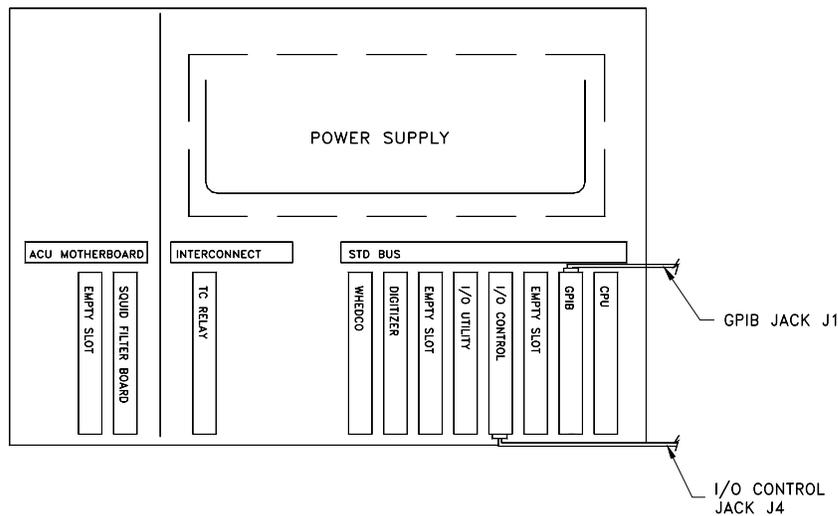
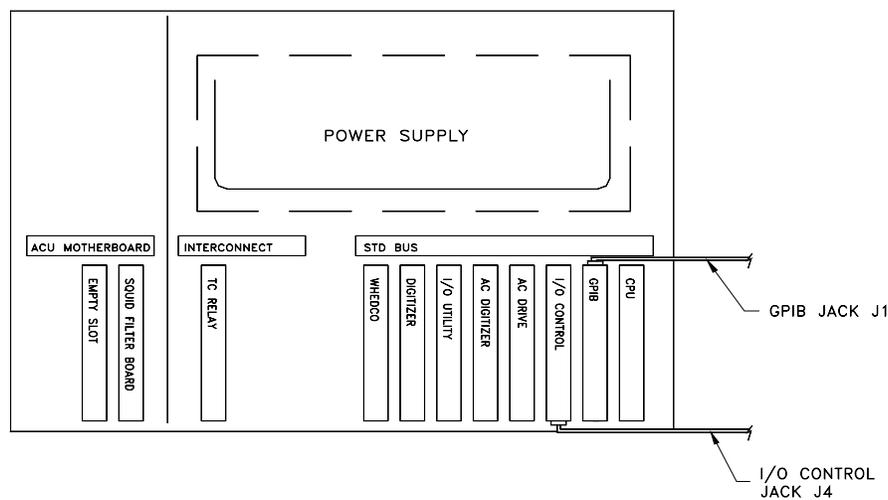

Figure 8. 1822 controller setup on a standard MPMS system, including proper connections for ribbon cables
Figure 9. 1822 controller setup on an AC system, including proper connections for ribbon cables
- Figure 3 shows a frontal view of the 1822 controller unit, including the different boards, cables, and connections. Referring to this figure, locate the ribbon cables marked GPIB and I/O Control Jack J4, which are in the far right of the controller unit next to the CPU board. Note that the layout of boards will vary according to the options that have been installed, but the CPU board is always at the far right. (For example, Figure 9 shows the layout for an AC system.)
1. Holding the CPU board so that its top (the side with the chips on it) faces to your left, slide the board into the far right slot of the 1822 controller (Figures 8 and 9). Push on the board until it is firmly seated in the socket in the STD Bus board. Figure 8 illustrates the 1822 controller setup for a standard system, and Figure 9 illustrates it for an AC system.
2. Attach the GPIB and I/O Control Jack J4 ribbon cables to their respective boards, referring to your notes so that the cables are connected to their original positions and have their original orientation. Connect Jack J4 to the bottom of the I/O control board and connect Jack J1 to the top of the GPIB board (see Figures 8 and 9).